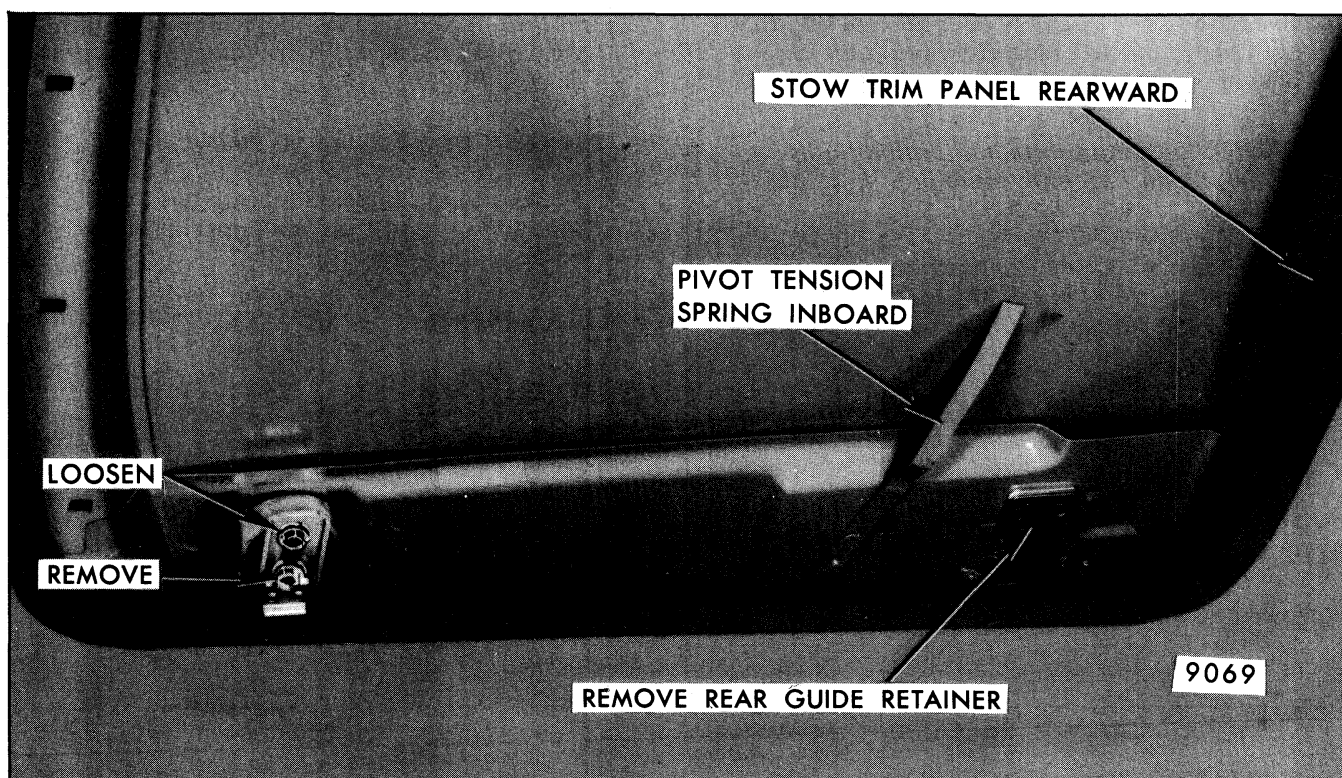

Fig. 8-78-Sun Roof Panel Removal
4. Remove outboard screw from each front guide shoe assembly (Fig. 8-78).
each front guide shoe assembly inboard to clear guide rail (Fig. 8-78).
6. Remove attaching bolts from rear guide retainer plate to sun roof panel. Remove retainer plates (Fig. 8-78).
7. Disengage rear slide tension springs from their respective rollers and pivot springs inboard (Fig. 8-78).
3. Install outboard screws and tighten both screws on each front guide (14 to 22 inch-pounds of torque) (Fig. 8-78).
6. Lift rear of roof panel upward and actuate control switch to position cable assembly at rear guide attaching plate into alignment with attaching holes on roof panel (Fig. 8-78).